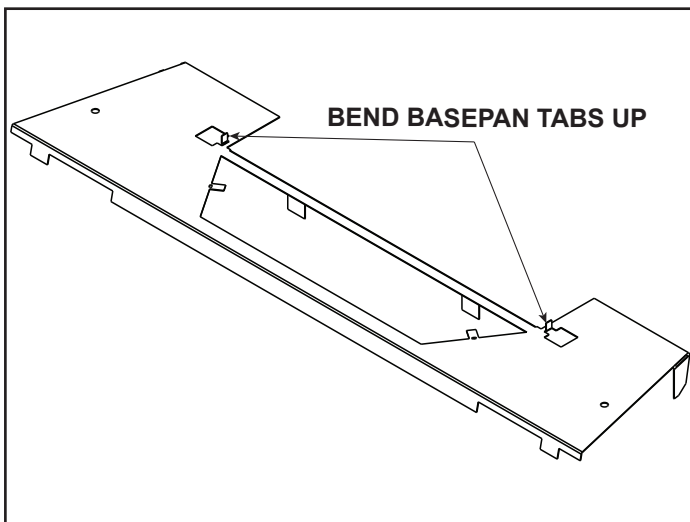
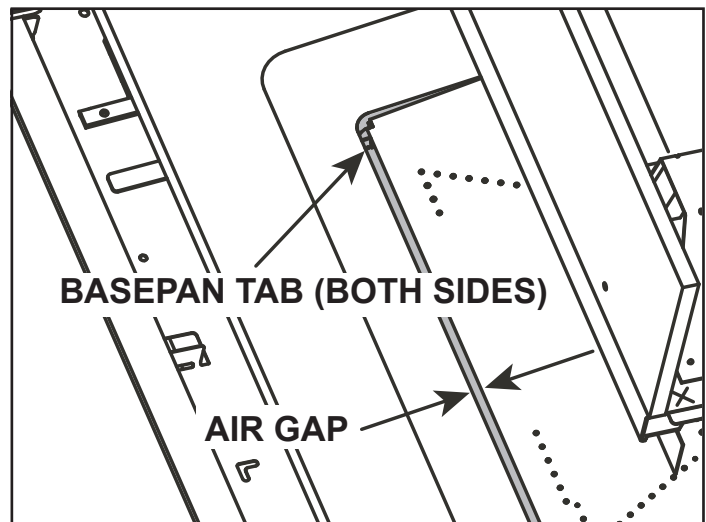

Figure 2 Bend Basepan Tab - CAL36X-SG/WB Only
Figure 3 Basepan Installed - CAL36X-SG/WB Only
CAL36X-SG, CAL36X-WB MODELS: Bend the left and right basepan tabs up to 90 degrees as shown in Figure 2. Bending the basepan tabs up creates a necessary air gap between the burner and the base refractory shown in Figure 3.
2. Reference the seven log pins and the location of the log stop shown in Figure 2.